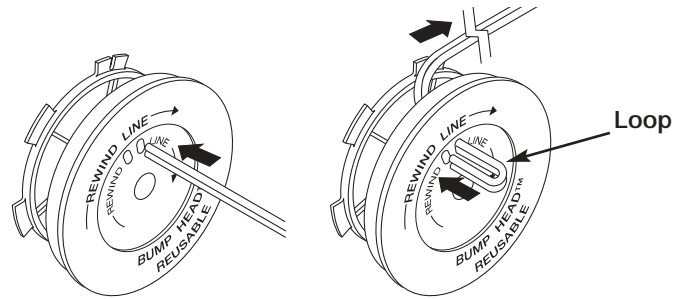

Fig. 21
- Take approximately 8 feet (2.5 m) of new trimming line. Insert one end of the line through one of the two holes in the inner reel (Fig. 21). Pull the line through the inner reel until only about 4 inches is left out.
- Insert the end of the line into the open hole in the inner reel and pull the line tight to make the loop as small as possible (Fig. 21).